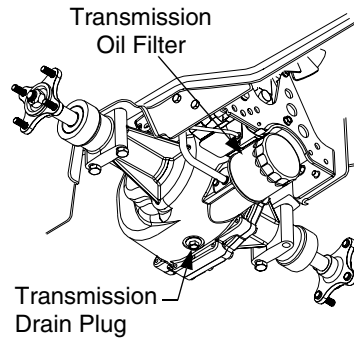

Figure 21
- Clean the area around the transmission drain plug to prevent debris from entering the transmission case. Remove the drain plug and allow the transmission oil to drain into a clean container having a capacity of more than 5 quarts. Reinstall the drain plug. See Figure 21.